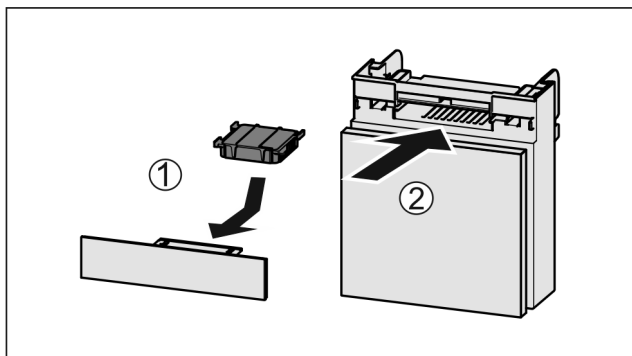

Fig. 237
- ▶ Insert the carbon filter as shown in the diagram Fig. 237 (1).
- ▶ Push the compartment in Fig. 237 (2).